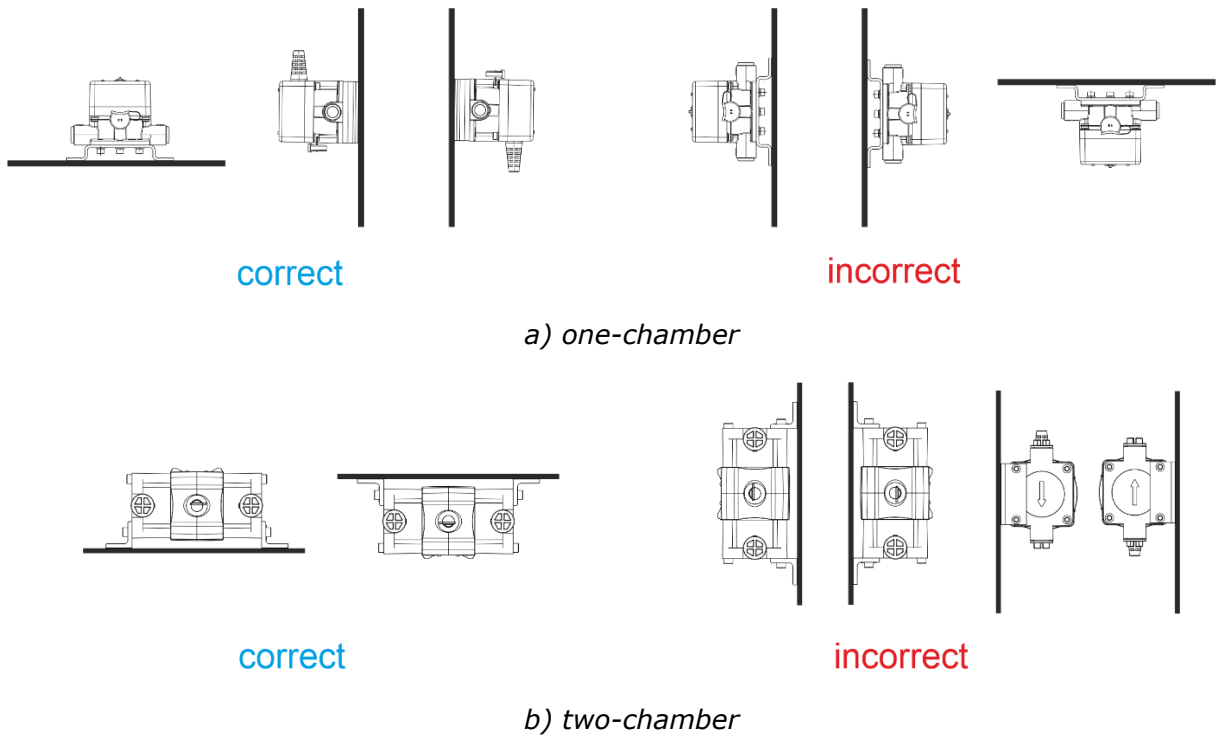

Figure 25 — Operational position of DFM in the vertical and horizontal planes
- 1) In order to ensure the declared accuracy of measurement, one-chamber DFM flow meters should be installed only in "bracket directed down" and "bracket directed sideways" positions (see figure 25 a). Differential DFM should be installed only in "bracket directed down" and "bracket directed up" positions (see figure 25 b).